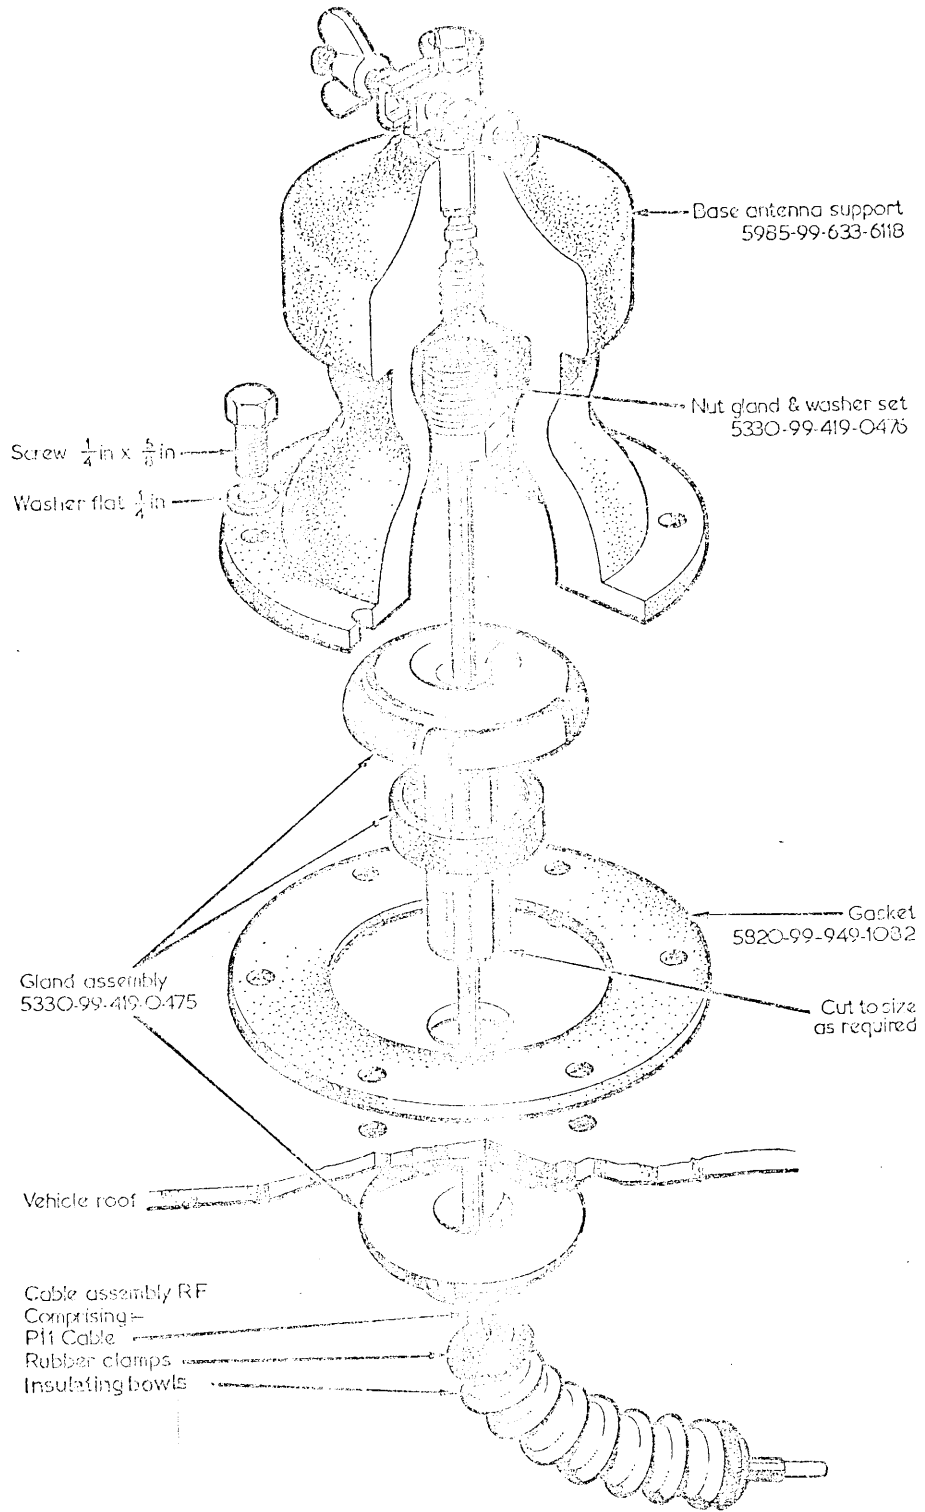

Fig 3 -- Assembly details of antenna base No 31
76. Fit the inner part of the gland assembly (165) down through the hole in the vehicle roof at the rear left hand antenna position.
77. Fit the outer part of the gland assembly (165) over the inner from the inside of the vehicle. Cut the complete assembly to size as necessary. Apply a hot soldering iron to the join of the two parts of the gland assembly to secure.
78. Assemble the nut, gland and washer set (173) on the harness (168) as shown in Fig 3 and secure the harness to the antenna base No 31 (161).
79. Remove and retain the washers and insulator bowls from the harness (168).
80. Feed the harness (168) down through the gland assembly and place the antenna base in position on the vehicle roof. Ensure that the gasket (166) is fitted between the antenna base and the vehicle roof.
81. Check that the harness (168) has been fed out of the bottom of the gland assembly (165) into the vehicle interior.
82. Secure the antenna base No 31 to the vehicle roof using screws (182) and washers (190, 196) provided.